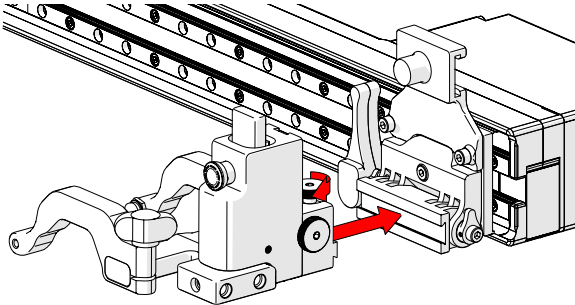

Fig. 191 - Mount probe holder to carrier
1. Loosen the probe holder adjustment knob (*Fig. 191*) and mount the heavy duty vertical probe holder's dovetail jaw to the carrier.